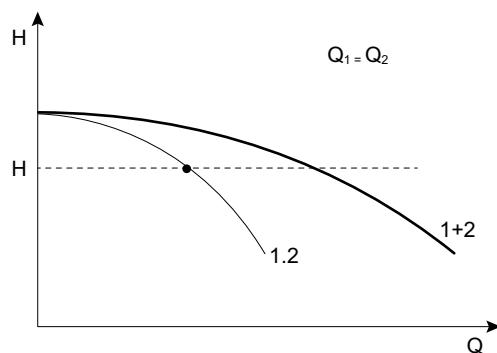

Fig. 7.3.3d Connection of two similar pumps
It is possible to increase the capacity in a pump installation by two or more pumps coupled in parallel (see Fig. 7.3.3d).
The Head (H) will always be constant in the pump installation. The capacity can vary depending on the pump sizes. (See Fig. 7.3.3d)